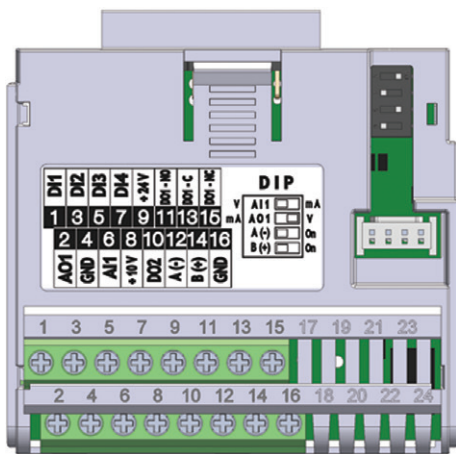

Figure 18.1: Plug-in module CFW500-IOS
The CFW500-IOS plug-in module has only Serial (1) interface through RS-485 port at terminals 12 (A-) and 14 (B+), see Figure 18.1 on page 18-1.